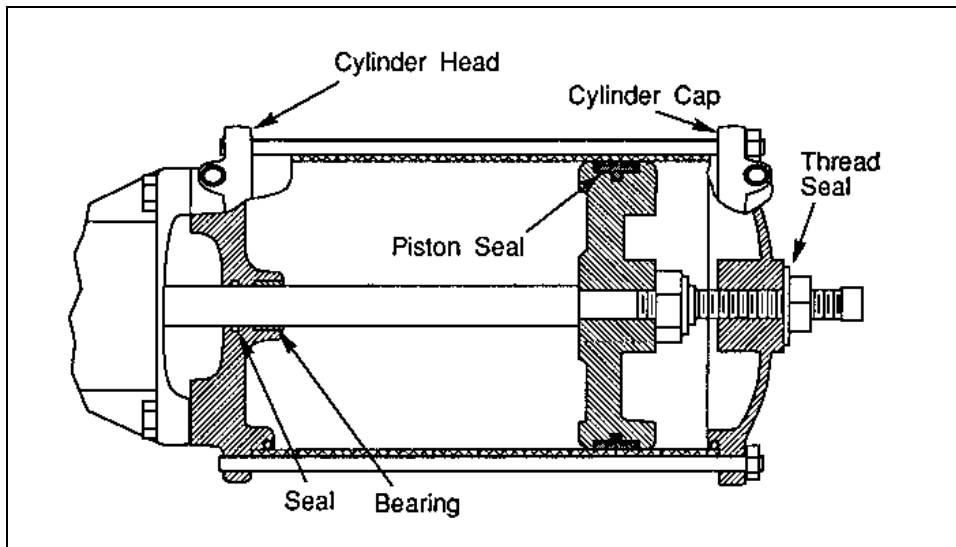

Figure 2—Cylinder Parts Location
2. Attach the cylinder head to the actuator. See Figure 2.